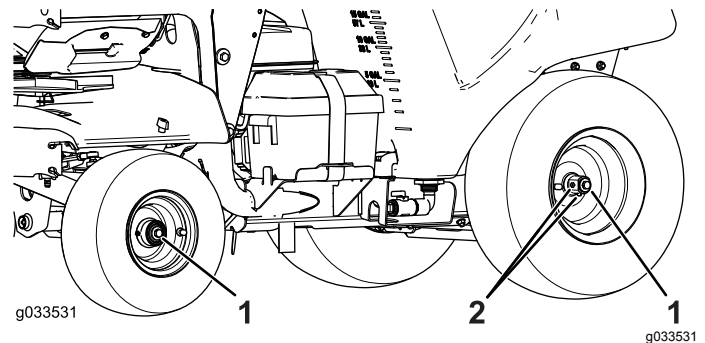

Figure 79
1. Torque the 4 axle bolts on both front and rear wheels (Figure 79) to 48 N·m (35 ft-lb).